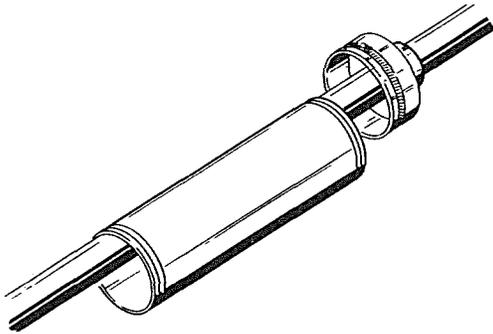

Figure 7. Single Opening End Cap & Sleeve
- 4.12 Position the single opening end cap and sleeve on the main cable and slide back along the cable sheath approximately the length of the sleeve as shown in Figure 7. Position tip cables into the cap so the PVC jacket extends approximately one half inch past the inside edge of the nipple. Use the K&B Cable Lubricant provided with the closure to ease the cable installation.